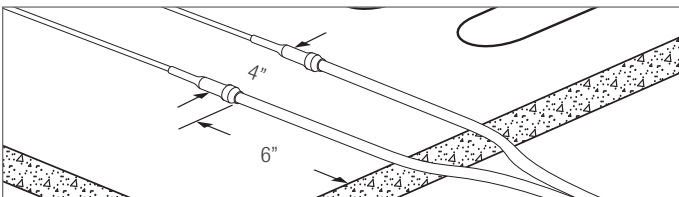

FIGURE 2.21b: Cold Lead Positioning
5. Space the second hot/cold joint at least 4" (100mm) away from first hot/cold joint and 6" (150mm) in from the edge of the slab. See Figure 2.21b.